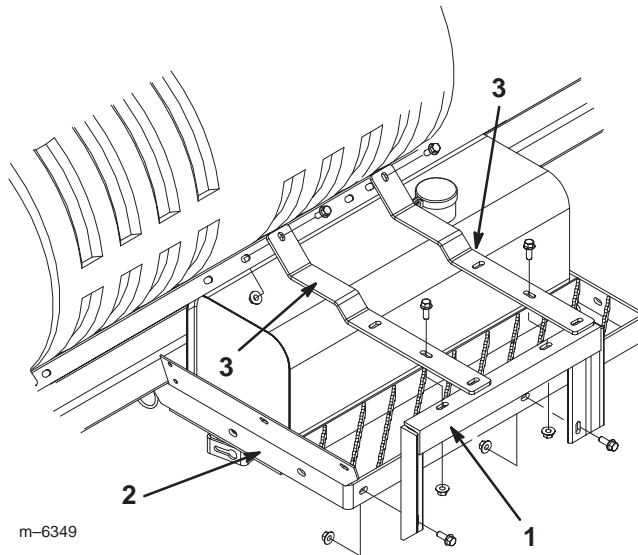

Figure 2
1. Install the hose reel support to the hydraulic reservoir mount (Fig. 2) using 2 flange-head bolts (3/8 x 1 inch) and 2 flange nuts (3/8 inch). Do not fully tighten the nuts to allow for adjustment later.
2. Install the ends of the 2 hose reel straps to holes in the tank saddle that you located and/or drilled earlier (Fig. 2) using 2 flange-head bolts (3/8 x 1 inch) and 2 flange nuts (3/8 inch).
3. Attach the hose reel support to the hose reel straps (Fig. 2) using 2 flange-head bolts (3/8 x 1 inch) and 2 flange nuts (3/8 inch).